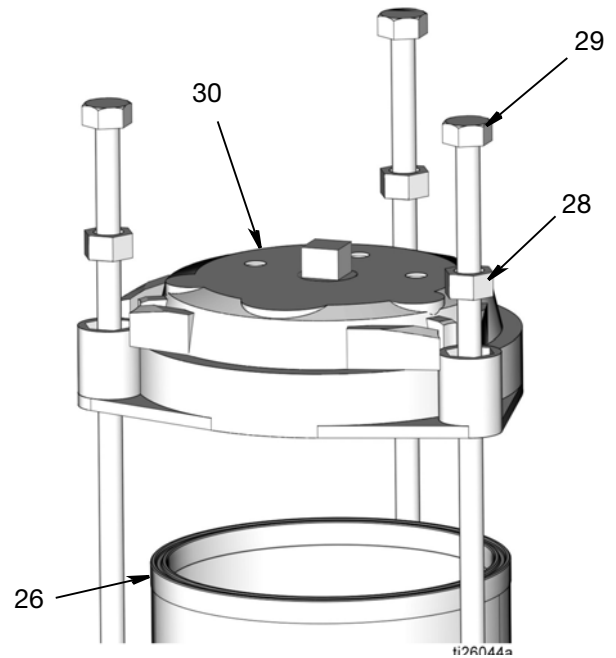

FIG. 58
13. Install cover (30) over reservoir gasket (26).
14. Install spacers (28) and tie rods (29) (FIG. 58).